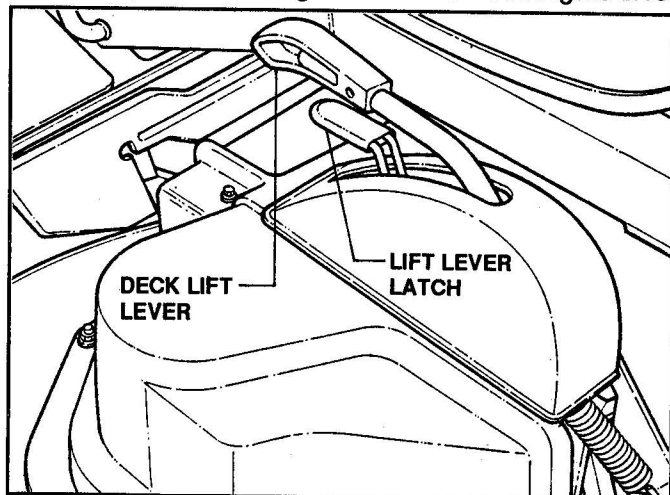

FIGURE 2.13
1. Adjust cutting height as desired to any one of six positions using deck lift lever. See Figure 2.13.
- (c) Release the lift lever latch to lock deck into position. Refer to Figure 2.13.
3. Place transmission shift lever in "FIRST" (1) forward speed.